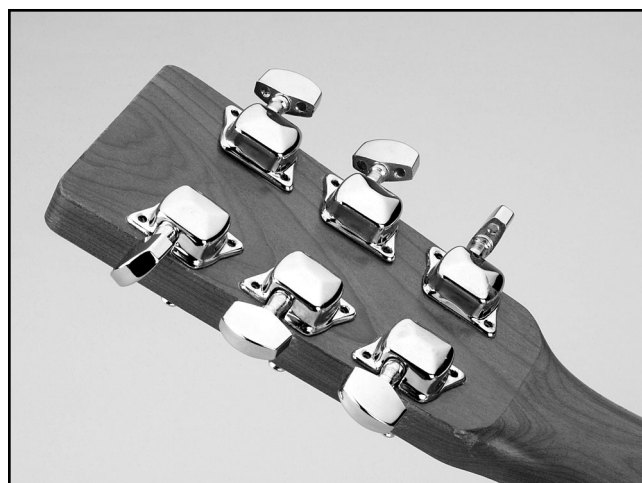

Figure 12. Correct tuning machine position.
2. Slide each machine head through the bushings from the back face of the headstock. Note—*Make sure the tuning machines are positioned as shown in **Figure 12**.*